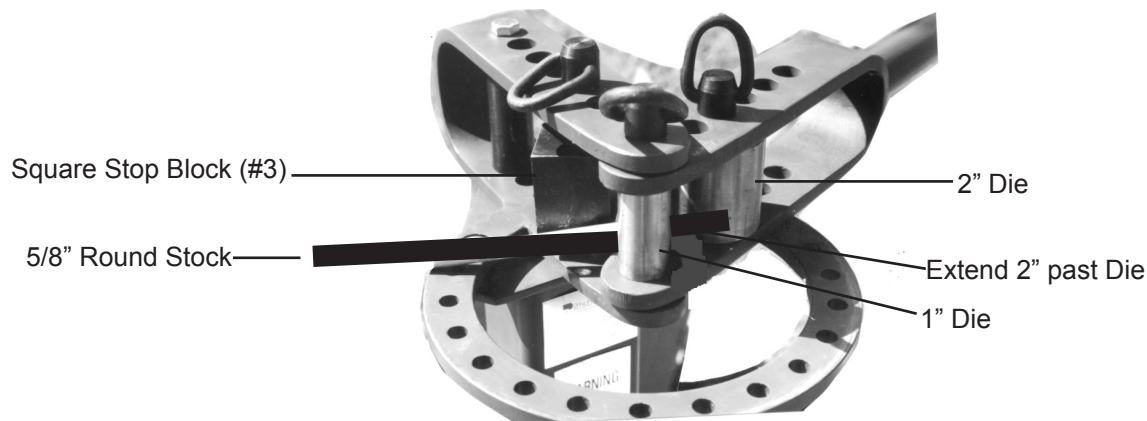

Figure 7
**Step 2)** Set the appropriate Die into place on the Outer Handle/Die Receiver (#9) between the upper and lower fork. Secure the Die in place by inserting the Short Hitch Pin (#2) through the Outer Handle/Die Receiver (#9) and the Square Stop Block. The Square Stop Block (#3) is held in place against the stock as shown in Figure 7 on page 12.
Step 2) With the Handle (part #8/9) in the normal position, place the 1" Die on the Center Pin. Place the 2" Die in the 2nd hole- as in Figure 7. Insert the round stock so that the end extends 2" down past the 1" Die - see Figure 7. Make the first bend at 90 degrees.
The following instructions are for a 1" Inner Diameter tube clamp using 4-1/2" long, 3/16" thick x 1" wide flat stock. See Figure 7 as a reference.